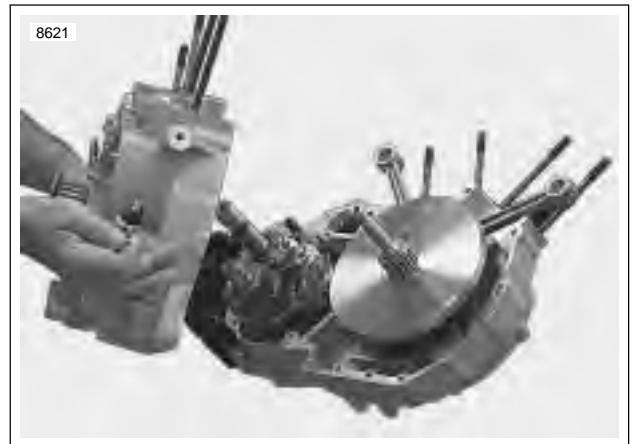

Figure 6-83. Crankcase Halves
4. See Figure 6-83. Assemble crankcase halves together.